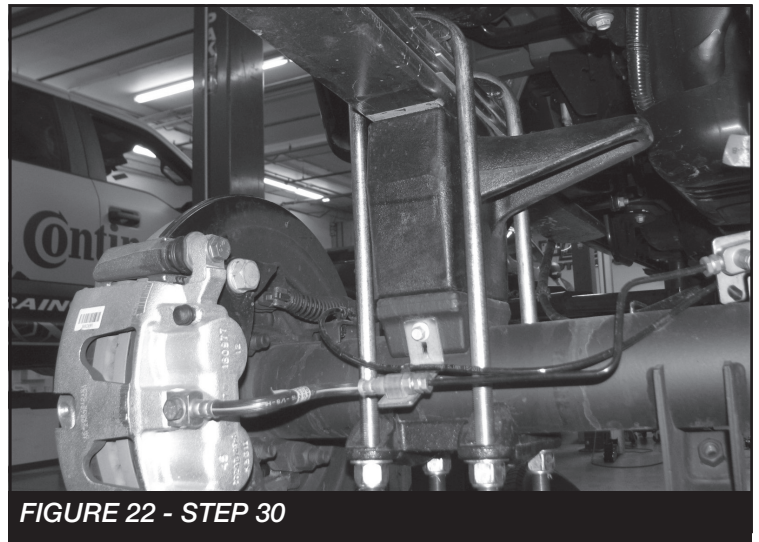

FIGURE 22 - STEP 30
30. With the rear axle supported, remove the rear factory shocks, ubolts and blocks. Install the rear lift blocks FTBK64D & P. The new blocks have an indicator on which direction to be installed. Install the supplied u-bolts, nuts and washers align axle, lift blocks and springs and torque to U-Bolts to 170 ft-lbs. **SEE FIGURE 22**